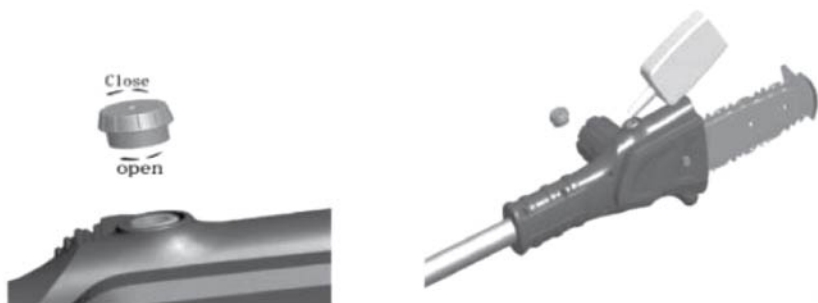

Fig.6
5. The oiler inside the oil into the pole saw's fuel tank. (IMPORTANT: Fill up, you must tighten cap) (See Fig.6)